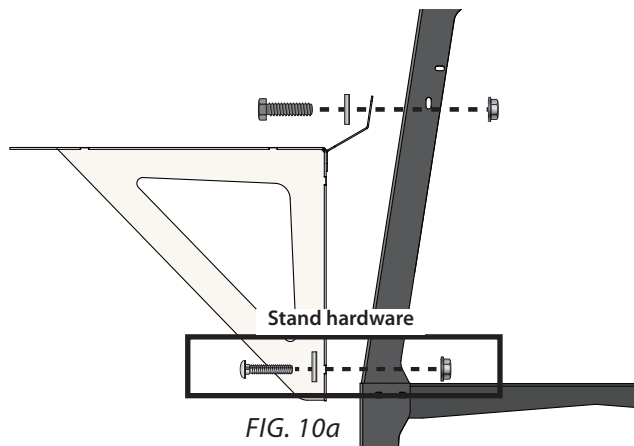
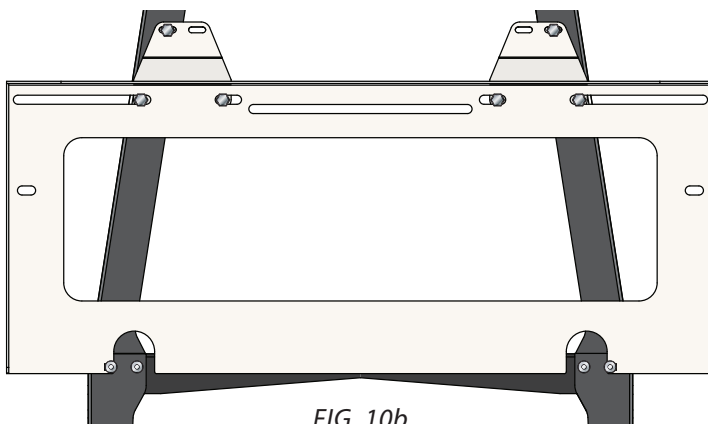

FIG. 10a
FIG. 10b
Attach the Filter Plate Assembly (N, O7) to the Stand (R) with two Hex Head Bolts (O7A), two Flat Washers (O7B) and two Whiz-Lock Nuts (O7C) as shown in [FIG. 10A] and [FIG. 10B]. Secure the Dual Filter Plate Assembly in place using the Stand's previously installed hardware from Step 1.